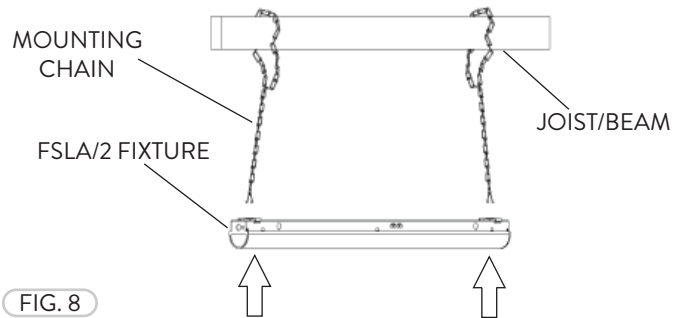

FIG. 8
- 3 Install the Hook and Chain Mounting Kit to the ceiling Joist/Beam. Lift the FSLA/2 fixture with the Mounting Brackets and hook into place (Fig. 8).